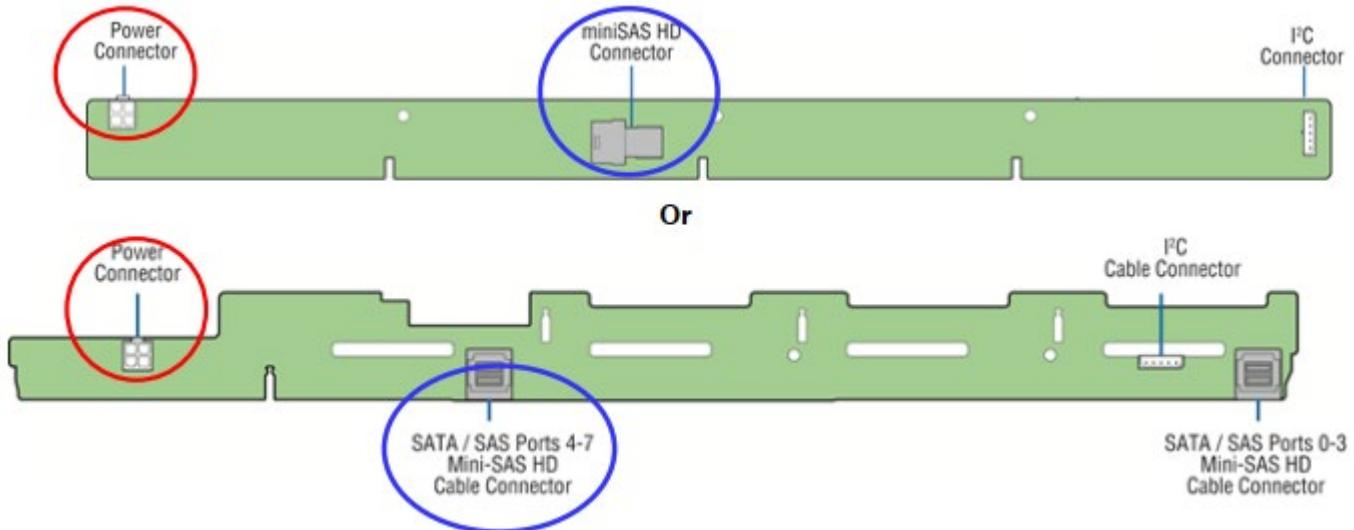

Figure 9. Backplane Power Cable and SAS/SATA Data Cable Attachments
- Attach the P1 (Straight Connector) end of the SAS/SATA Data cable to the specified mini-SAS HD connector on the backplane (see Figure 9).